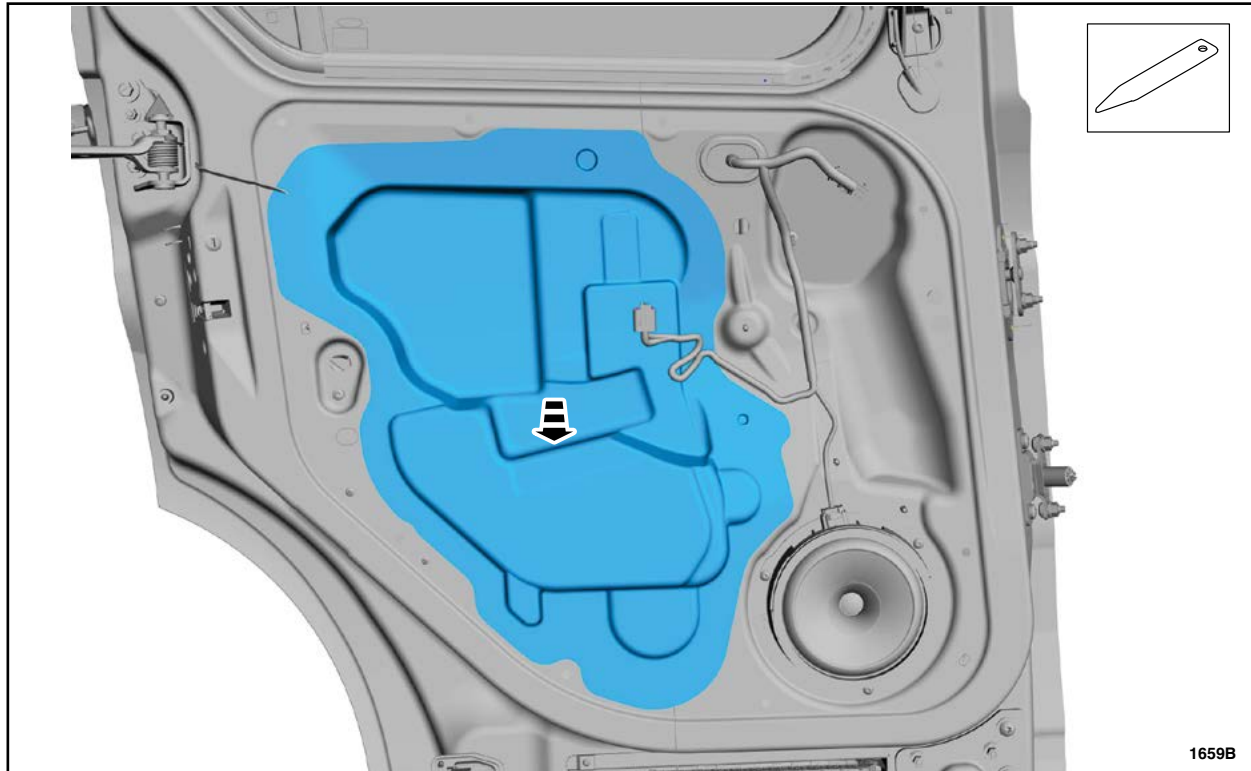

FIGURE 10
3. Remove the sliding door watershield using an interior trim remover tool. See Figure 10.